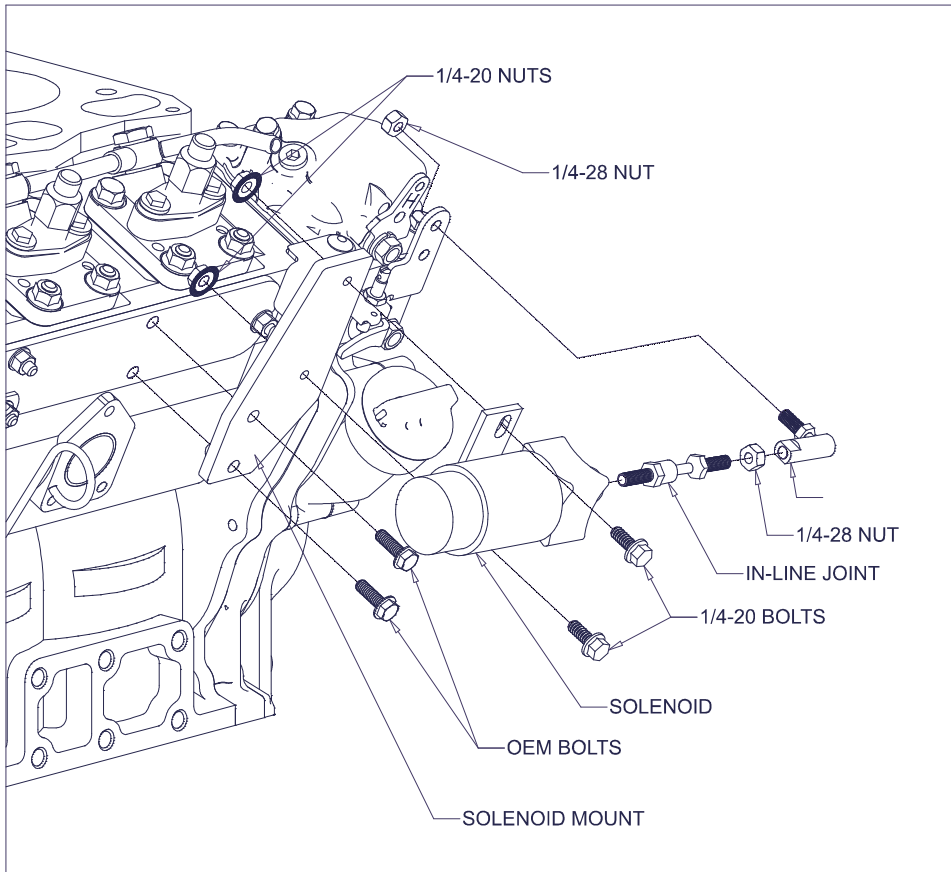

Figure 2.1 – Solenoid Layout
- Mount the control solenoid to the engine as shown in figure 2.1.